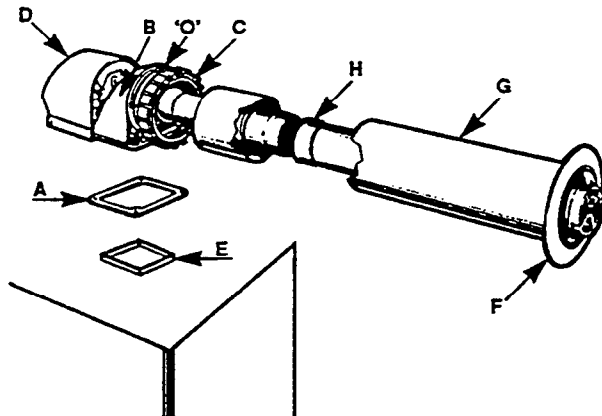

Fig. 22
The safety valve is mounted below the heating return (J) (fig. 22) isolating valve.